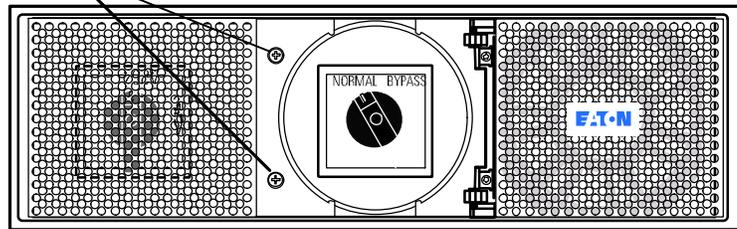

Figure 17. Remove the Front Cover Screws
2. Remove and retain the two left-side Phillips-head screws that secure the front cover (see Figure 17).